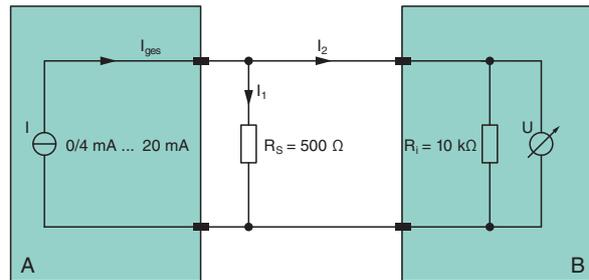

Figure 35 Current/voltage conversion with a measurement resistor
the measured current can be converted into a measured voltage. This is possible in principle, however it leads to transfer errors that have to be corrected by re-scaling the control (B). The problem lies in the input resistor of the voltage input. Thus, the current is divided into 2 partial currents I_1 and I_2 . Figure 35 shows the pattern with an input resistance of 10 k Ω . The signal current of 20 mA is not converted to 10 V, but simply to about 9.5 V. Rescaling is required in the control (B).